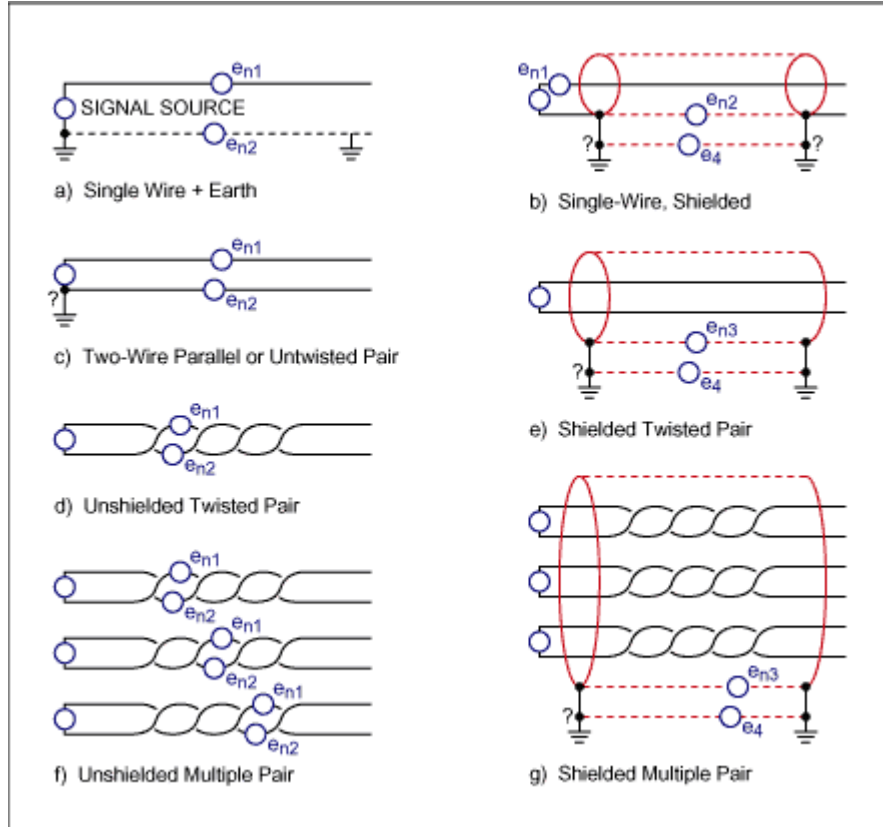

Figure 2. These transmission-cable configurations show the locations of possible noise sources.
Noise signals can appear in a cable as the result of capacitive coupling of nearby electric fields (E), inductive coupling of local magnetic fields (M), electromagnetic coupling of radio signals in space (EM), and conduction via intentional or sneak circuit paths (C). The coupled signal appears as an additional signal in series with the line or lines (Figure 2). Table 2 lists by type the origin of potential noise sources in cables. Twisted-pair lines intercept coupled signals equally, so the incident signals appear only as common-mode signals. Such lines are said to be balanced if the impedances connected from each line to the local common are identical.